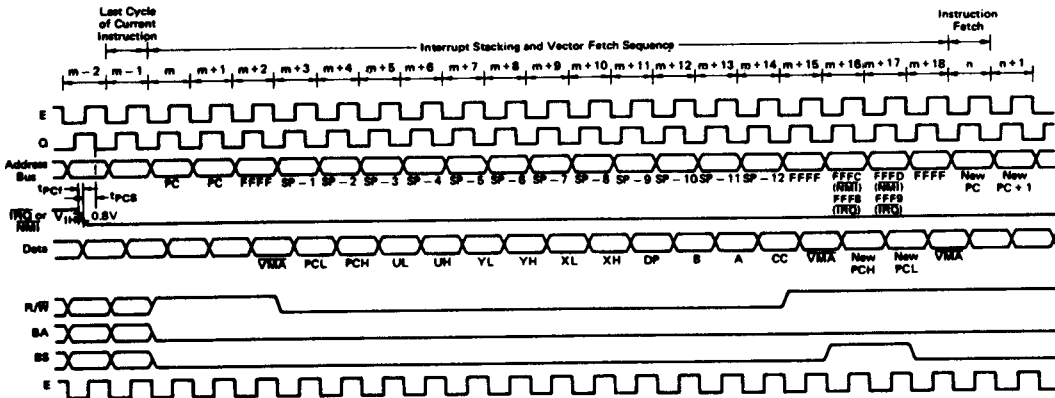

Figure 9  $\overline{\text{IRQ}}$  and NMI Interrupt Timing
hardware stack. After reset, an NMI will not be recognized until the first program load of the Hardware Stack Pointer (S). The pulse width of NMI "Low" must be at least one E cycle. If the NMI input does not meet the minimum set up with respect to Q, the interrupt will not be recognized until the next cycle. See Fig. 9.
A "Low" level input on this pin will initiate an interrupt Request sequence provided the mask bit (I) in the CC is clear. Since  $\overline{\text{IRQ}}$  stacks the entire machine state it provides a slower response to interrupts than  $\overline{\text{FIRQ}}$ .  $\overline{\text{IRQ}}$  also has a lower priority than  $\overline{\text{FIRQ}}$ . Again, the interrupt service routine should clear the source of the interrupt before doing an RTI. See Fig. 9.